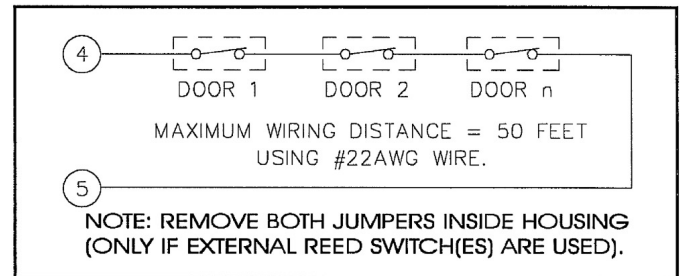

Fig. 3. Multiple door monitoring.
**Reed Switch (Terminals 4 & 5).** Connect external reed-switch contacts to Terminals 4 and 5 and *remove both jumpers*. **Note:** If reed switches are wired in series as shown in Fig. 3, several doors may be monitored simultaneously. Using #22AWG wire, maximum wiring distance should not exceed 50 feet.